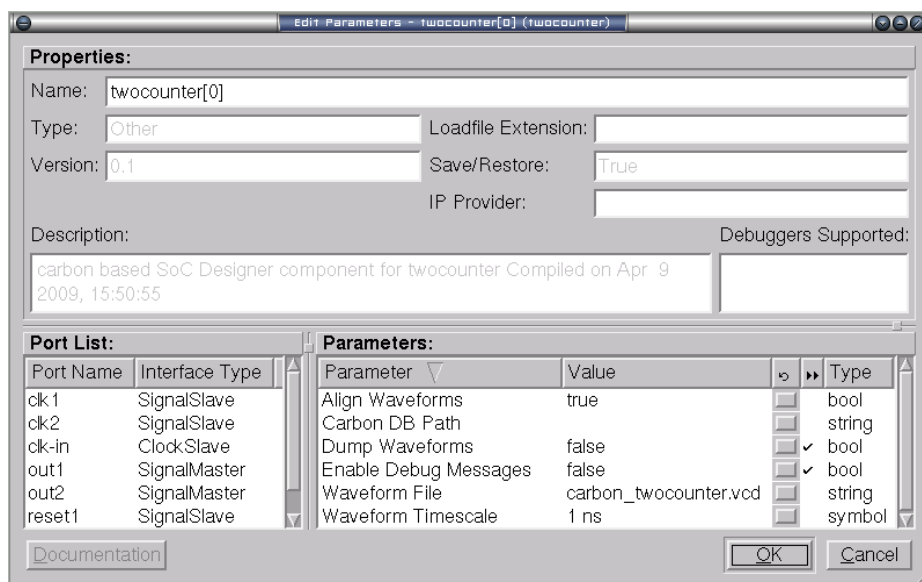

Figure 5-53 Edit Parameters dialog
1. In the Canvas, right-click on the component and select **Component Information**. The *Edit Parameters* dialog appears (Figure 5-53).